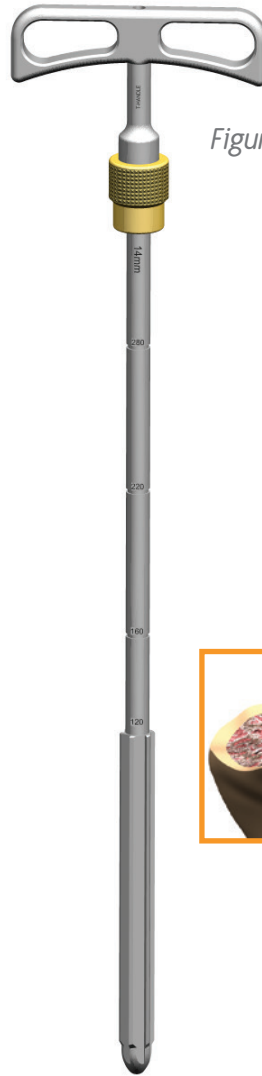

Figure 1
2. Ream the canal until cortical contact is achieved using progressively larger diameter reamers (*Figure 1*).